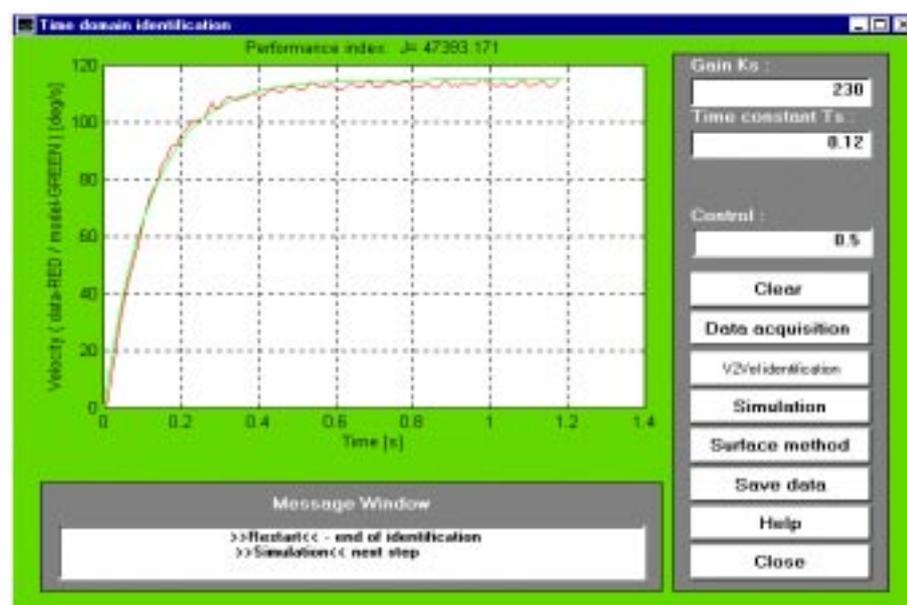

Figure 4-7: *Time domain identification* window
2) *Time domain identification* - opens the window to start identification on the base of a step system response (Figure 4-7).
Figure 4-7 shows results of an identification procedure.
Edit windows and pushbuttons are very similar to the previous one (Figure 4-7).